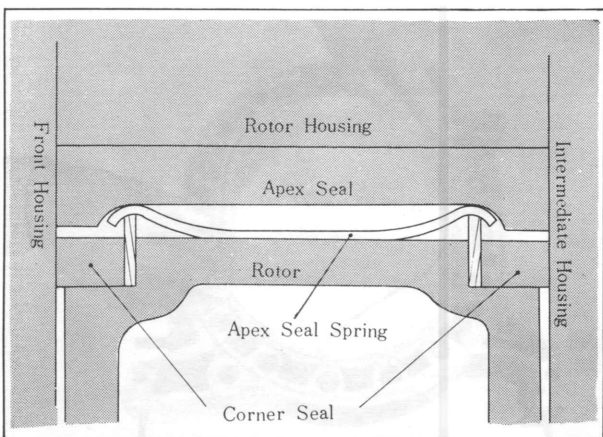

Fig. 1-98 Position of apex seal spring
1. Install the apex seal spring on the reverse side of the apex seal, as shown in Fig. 1-98.